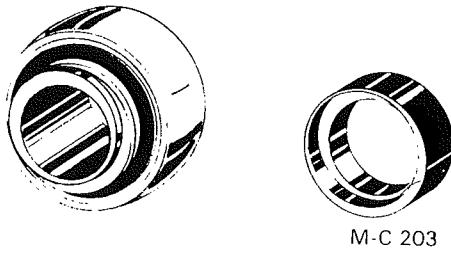

Figure 27
2. Observe cam design of wide inner ring and self-locking collar, see Figure 27.